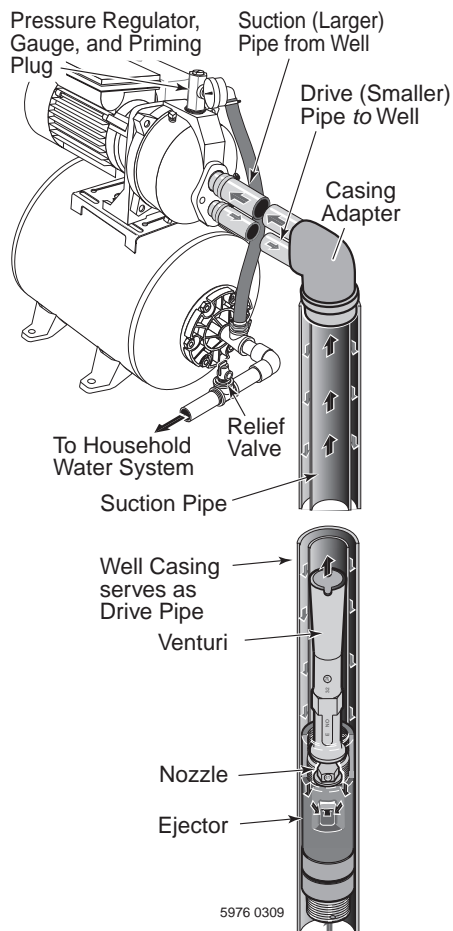

Figure 10: 2" (Single Pipe) Deep Well
2" Well (Figure 10)
- Step 3. Assemble ejector kit, well piping, and well head adapter according to the instructions provided with the ejector package. See Figure 10. Use galvanized drop pipe with turned couplings to allow proper flow. Follow the instructions included with the kit in order to match the nozzle and venturi to your well conditions.